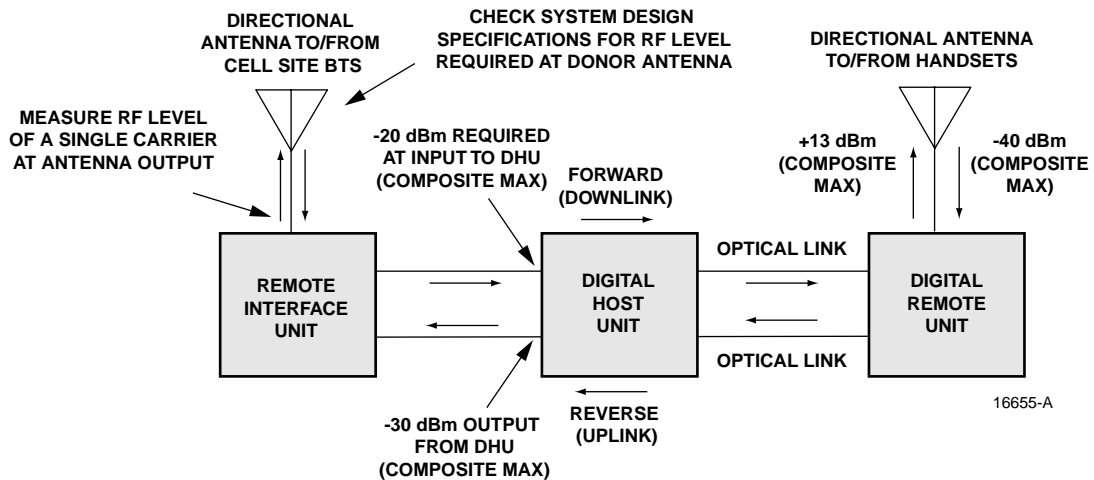

Figure 13. Signal Levels and Test Points
1. Connect a spectrum analyzer or power meter to the antenna connector. The required signal levels and test points are shown in Figure 13.